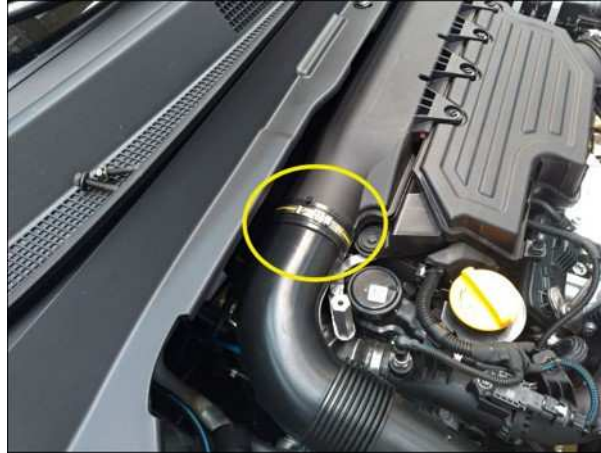

Fig. 1
5. Open the two retaining bands (Fig. 1) , disconnect and remove the pipe.
13. Fit the pipe into position and tighten retaining bands (Fig. 1) .